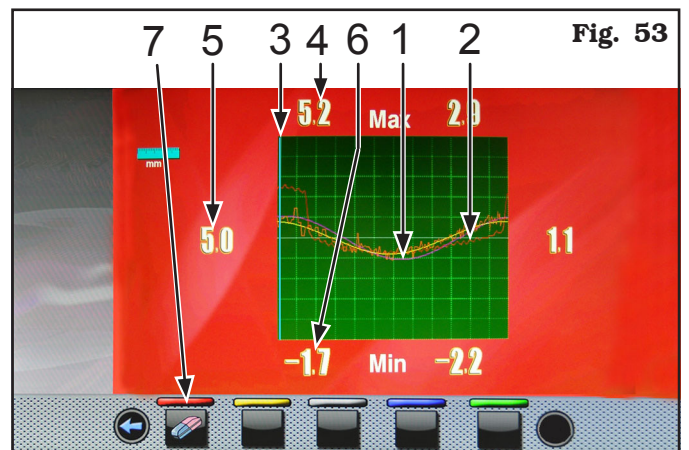

Fig. 53
The red graph (**Fig. 53 ref. 2**) represents exactly the geometric shape of the wheel. The more the wheel is round, the more the graph will come out flat, otherwise, the more the wheel is ovalized, the more the graph will come out wide.
You can follow the tyre ovality in the graph by turning the wheel, the blue-coloured-slider (**Fig. 53 ref. 3**), indicates the current position of the tyre in "12 o'clock" position.
The three numeric values (**Fig. 53 ref. 4-5-6**), expressed in mm, indicate respectively the highest peak, the ovality in the current position and tyre minimum peak.
The graph can be erased with push button (**Fig. 53 ref. 7**).